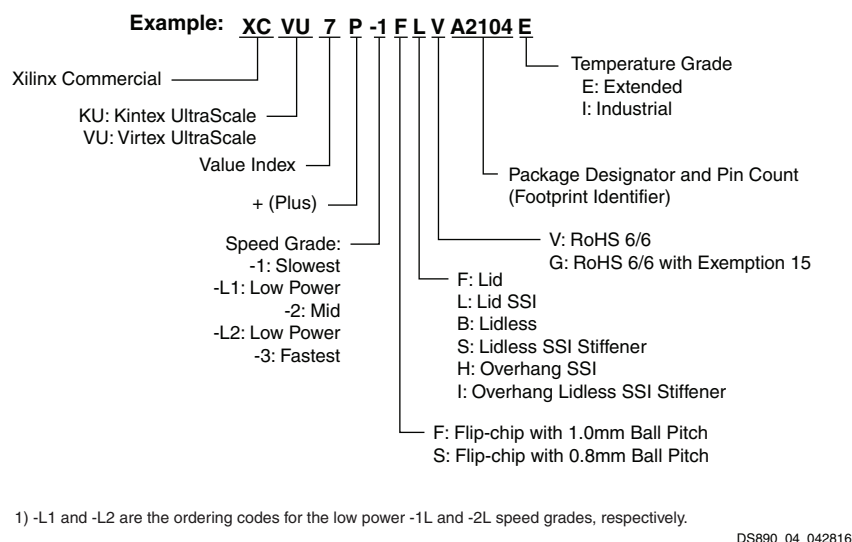
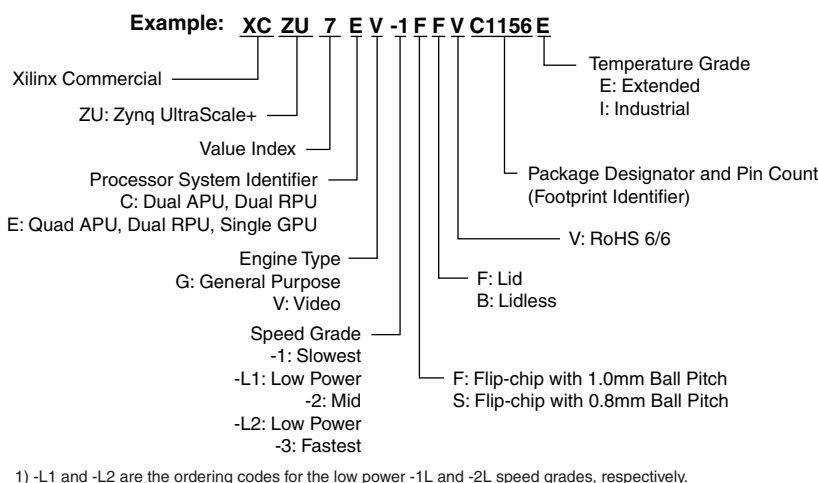

Figure 4: UltraScale+ FPGA Ordering Information
Figure 5: Zynq UltraScale+ Ordering Information
The ordering information shown in Figure 4 applies to all packages in the Kintex UltraScale+ and Virtex UltraScale+ FPGAs, and Figure 5 applies to Zynq UltraScale+.
| 06/03/2016 | 2.8 | Added Zynq UltraScale+ MPSoC CG devices: Added Table 2 . Updated Table 11 , Table 12 , Table 21 , and Figure 5 . Created separate tables for EG and EV devices: Table 13 , Table 14 , Table 15 , and Table 16 . Updated Table 1 , Table 3 , Table 5 and notes, Table 6 and notes, Table 7 , Table 9 , Table 10 , Processing System Overview , and Processing System (PS) details. |
| 02/17/2016 | 2.7 | Added Migrating Devices . Updated Table 4 , Table 5 , Table 6 , Table 10 , Table 11 , Table 12 , and Figure 4 . |